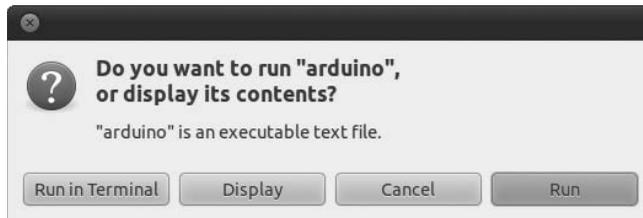
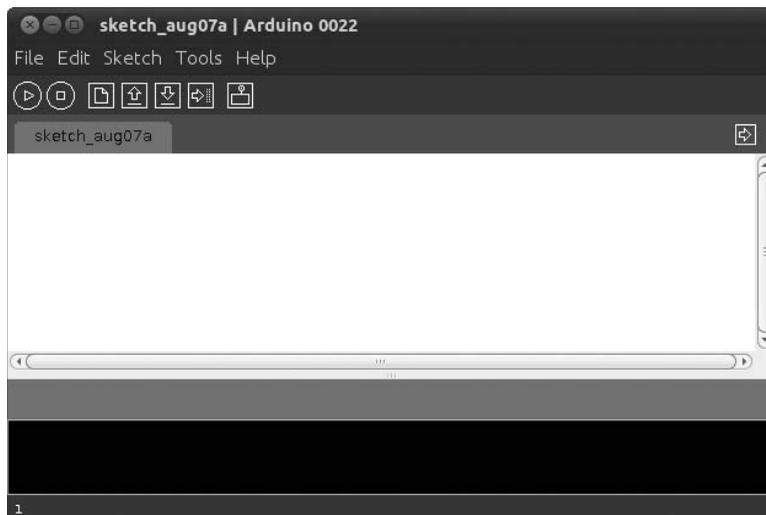

Figure 1-27: Granting permission to run the IDE
Figure 1-28: The IDE in Ubuntu
2. If the dialog shown in Figure 1-27 appears, click **Run**, and you will be presented with the IDE, as shown in Figure 1-28.